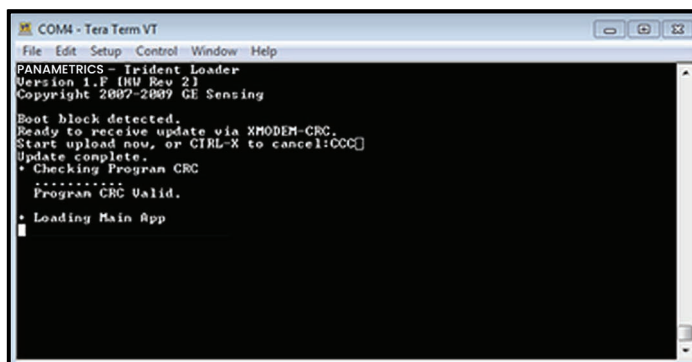

Figure 81: Update complete message in Tera Term
7. After the file transfer is complete, the *Tera Term* terminal window will appear as in *Figure 81* on page 93, and the meter will start up.